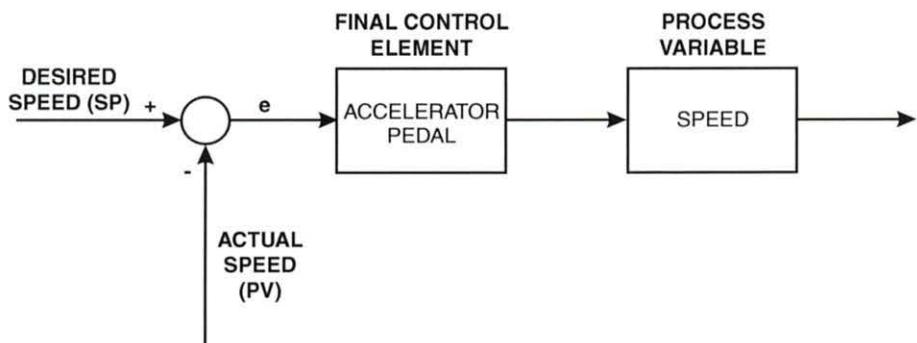

Figure 10. Addition of Process Variable Element
- D. Draw another rectangle to the right of the final control element to represent the process variable (speed). In addition, draw a flow line from the final control element to the process variable. This is all shown in figure 10.